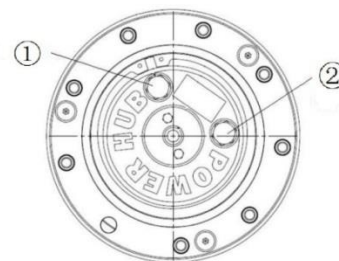

Figure 11-3 Traveling slowdown
- Drive the machine until one plug is located at the horizontal position as shown as shown in Figure 11-3.